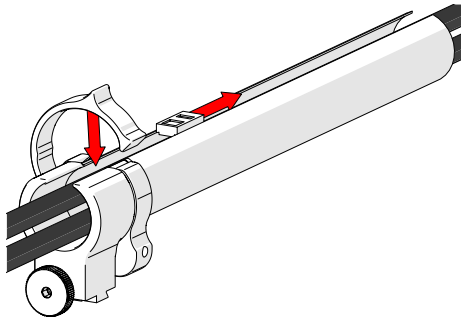

Fig. 92 - Zip up to close
2. Follow the cable placement zipping the tube closed (Fig. 92).